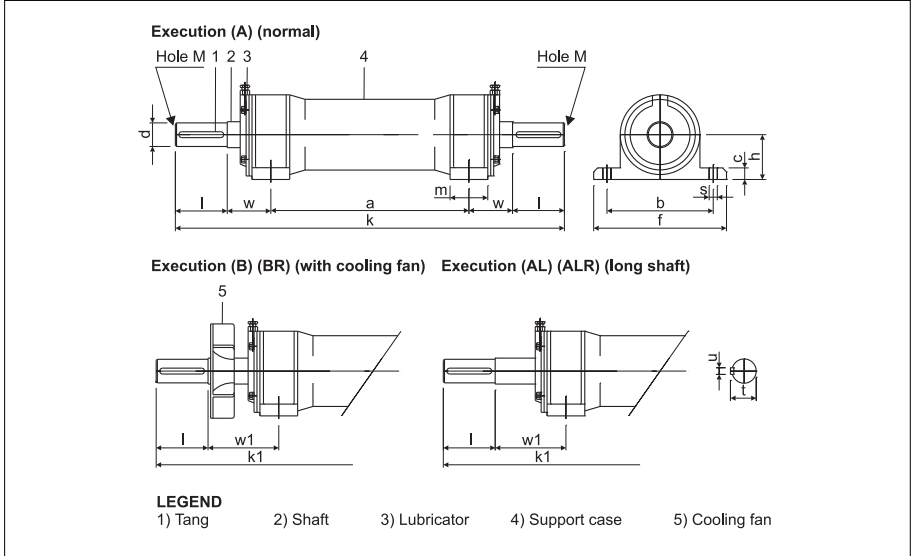

FIG. 22 (Assembling indirect drive fan with pipe support)
5.6.1- Assembling the indirect drive fan with pipe support (35A/B 28 - 40A/B 38...) (FIG. 22 and)